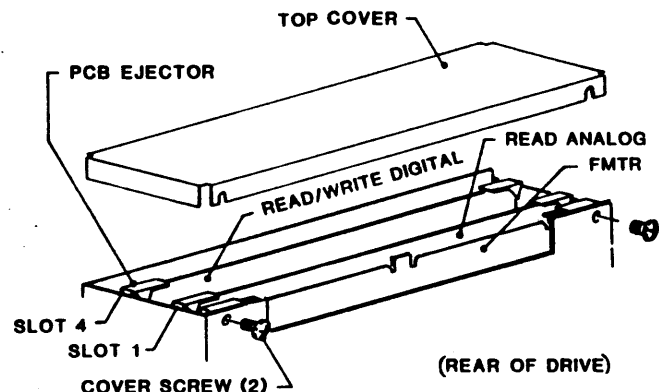

Figure 5-3. Card Cage
5.3.1 PRINTED CIRCUIT BOARDS IN CARD CAGE (Figure 5-3)